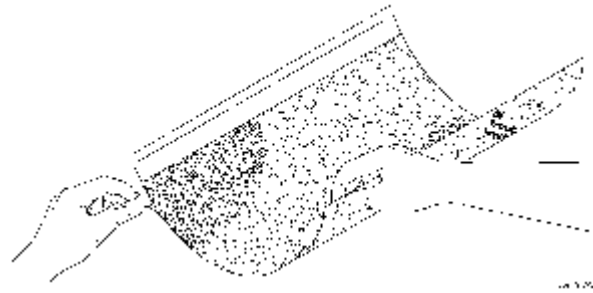

Figure 2. Lift the Graphic and Peel Back the Liner
- Raise the graphic up over the top of the hinge and peel the liner back a few centimetres. See Figure 2.
8. Raise the graphic patch up over the top of the hinge and peel the liner back a few centimetres. See Figure 2. on page 2.